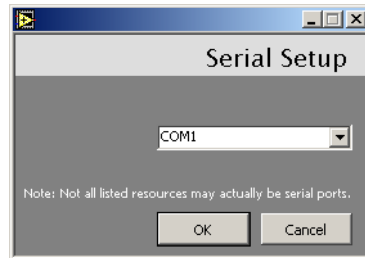

Figure 2-1 Serial Setup
Use Figure 2-1 for the serial set up.
1. Click **Serial Setup** on the *Home* screen and Figure 2-1 appears.